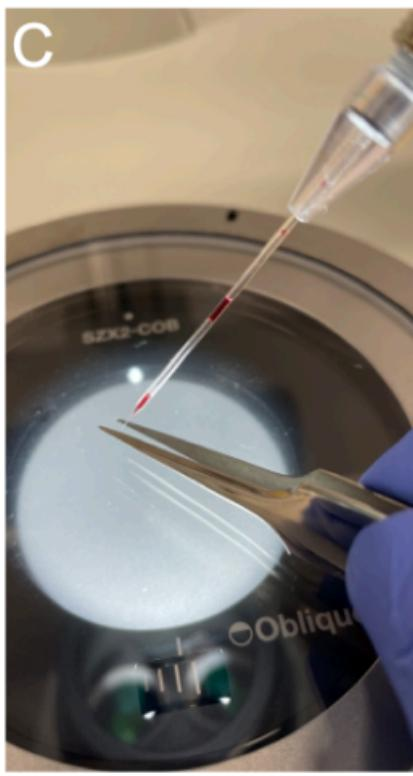

Figure SP2C. Breaking off the needle with fine tweezers using a stereomicroscope. The needle is held by a micromanipulator
- 19 Once it is possible to distinguish the two walls of the needle at a final magnification of 56X, break off the tip of the glass needle using high-precision tweezers (e.g., RubisTech Switzerland, model 5-SA)(Fig. SP2C).